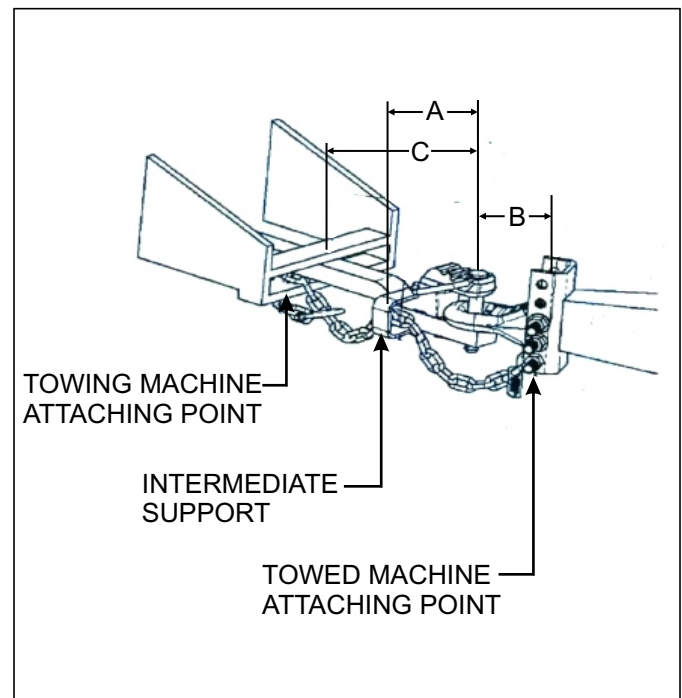

Figure 4-8: Auxiliary Attaching System with Intermediate Support
8. Attach the safety chain to the tractor drawbar (**See Figure 4-8.**) Refer to the tractor operating manual for additional information. Provide only enough slack in the chain for turning. Do not use an intermediate chain support as the attaching point for the chain on the tractor. Do not pull the implement by the safety chain.